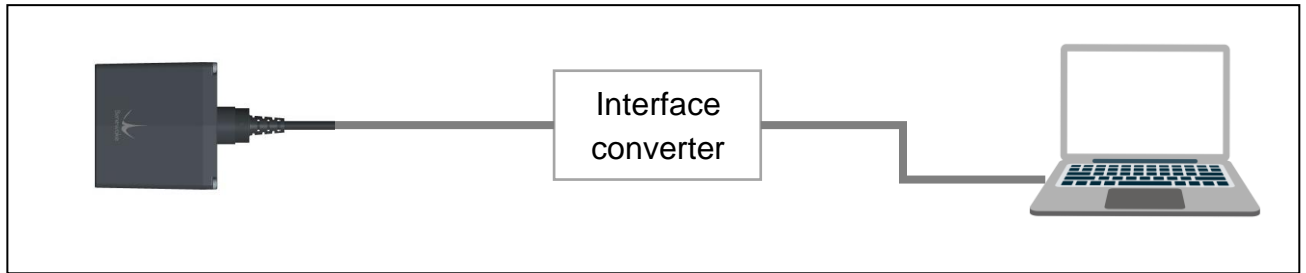

Figure 18 TF03 connecting to PC
- Connect TF03 to the PC or laptop with a **paired USB converter** cable as shown in *Figure 18 TF03 connecting to PC*. The UART version TF03 needs a UART-USB converter, and the CAN version TF03 needs a CAN-USB converter.